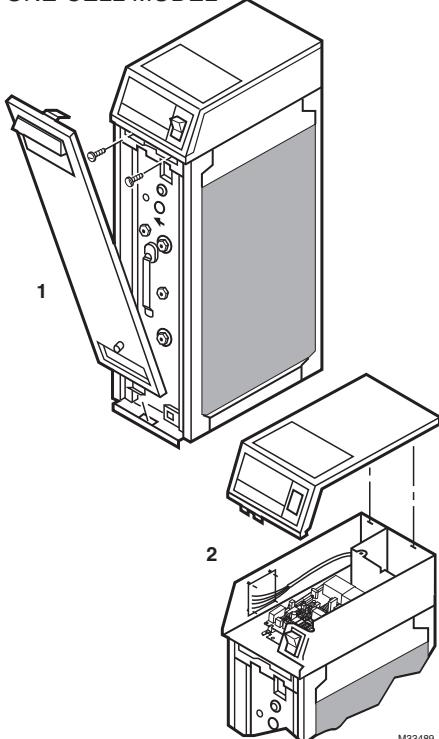

Fig. 1. Power supply location on F50E Two-Cell Air Cleaners.
- Open access door or grille. See Fig. 1 through 5.